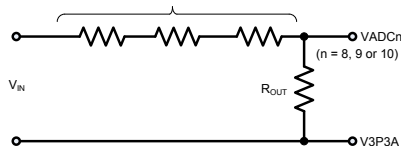
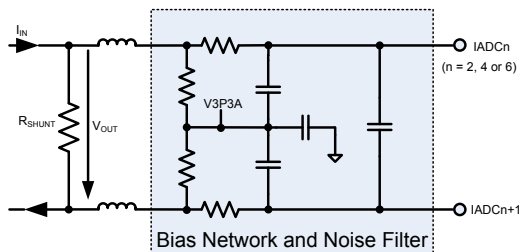
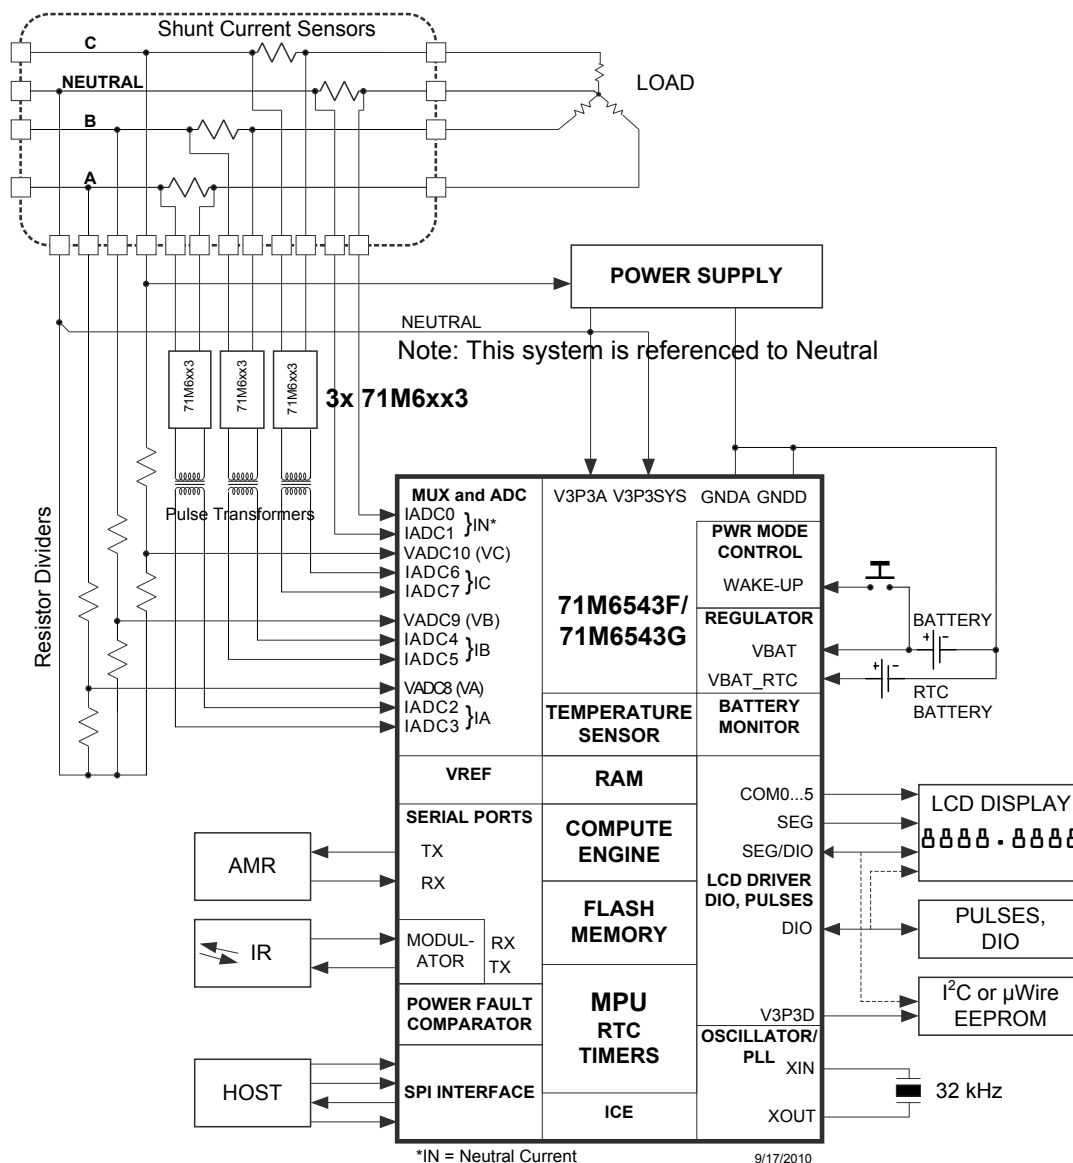
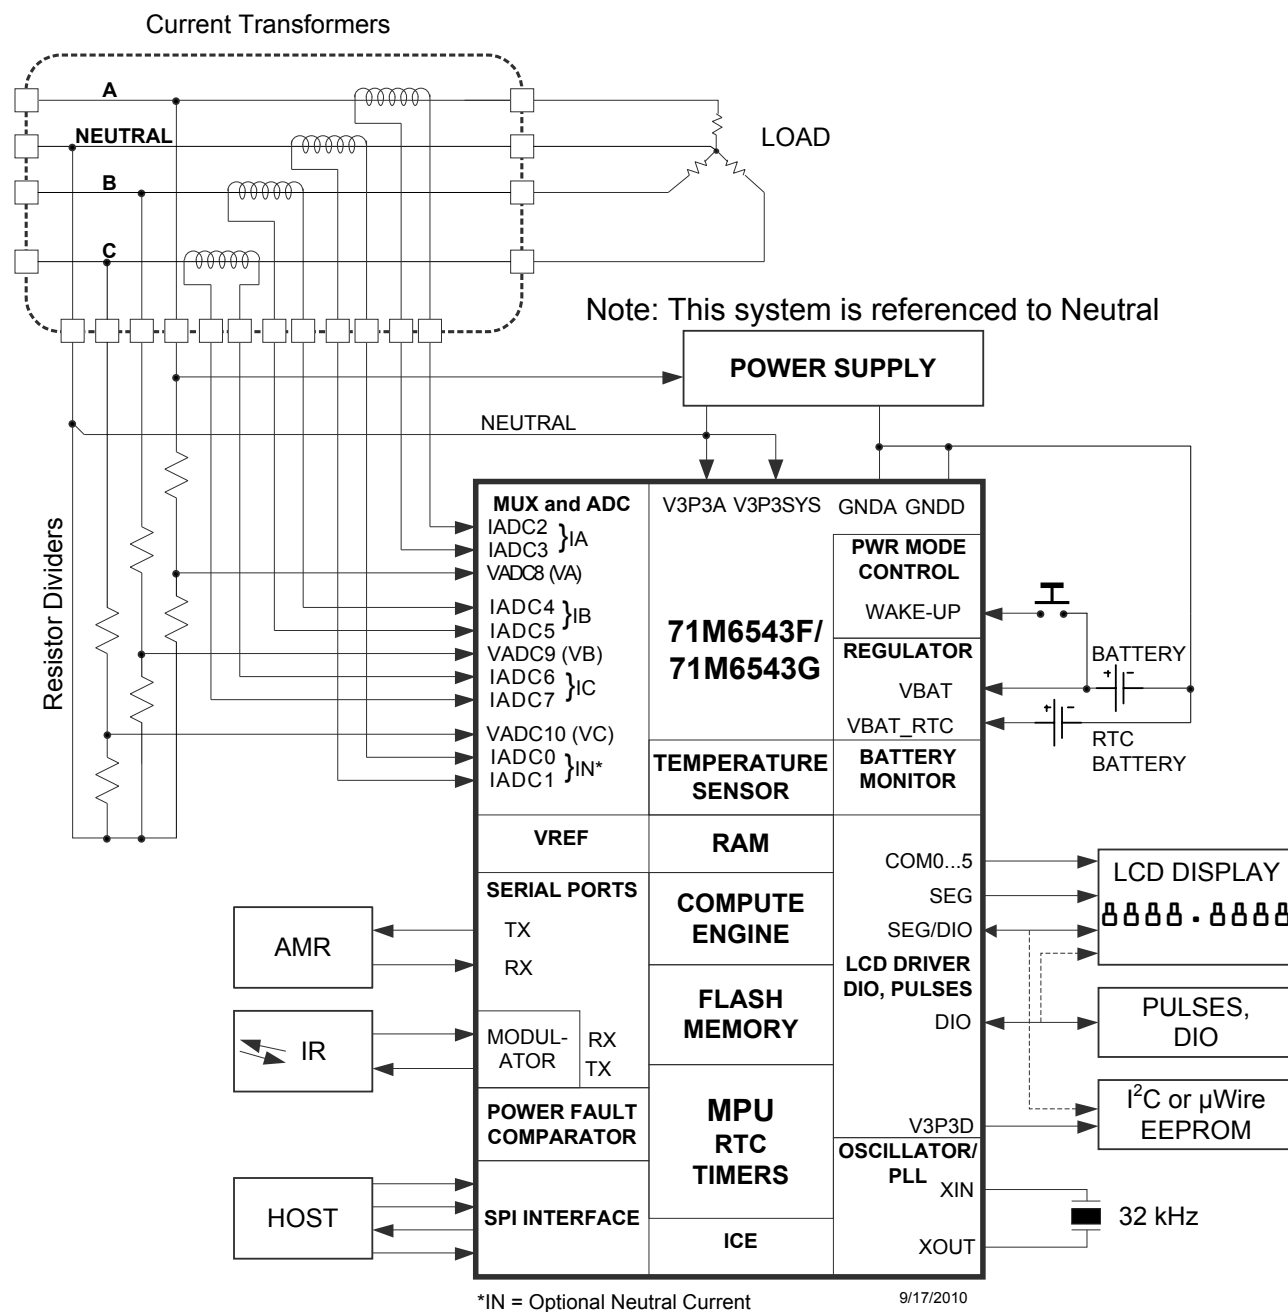

Figure 27: Resistive Voltage Divider (Voltage Sensing)
Figure 30: Differential Resistive Shunt Connections (Current Sensing)
Figure 31: System Using Three-Remotes and One-Local (Neutral) Sensor
Figure 32. System Using Current Transformers
Figure 27 through Figure 30 show voltage-sensing resistive dividers, current-sensing current transformers (CTs) and current-sensing resistive shunts and how they are connected to the voltage and current inputs of the 71M6543. All input signals to the 71M6543 sensor inputs are voltage signals providing a scaled representation of either a sensed voltage or current.
Figure 31 shows a typical connection for current shunt sensors; using the 71M6xx3 (polyphase) isolated sensors. Note that one shunt current sensor is connected without isolation, which is the neutral current sensor in this example (connected to pins IADC0-IADC1). Each 71M6xx3 device is electrically isolated by a low-cost pulse transformer. The 71M6543 current sensor inputs must be configured for remote sensor communications, as described in 2.2.8 71M6xx3 Isolated Sensor Interface (page 22). Flexible remapping using the I/O RAM registers $MUXn_SEL[3:0]$ allows the sequence of analog input pins to be different from the standard configuration (a corresponding CE code must be used). See Figure 2 for the AFE configuration corresponding to Figure 31.
Figure 32 shows a polyphase system using four current transformers to support optional Neutral current sensing for anti-tamper purposes. The Neutral current sensing CT can be omitted if Neutral current sensing is not required. The system is referenced to Neutral (i.e., the Neutral rail is tied to V3P3A and V3P3SYS).
This section discusses metrology temperature compensation for the meter designs where current shunt sensors are used in conjunction with the 71M6xx3 remote isolated sensors, as shown in Figure 31.
Referring to Figure 31, the VADC8 (VA), VADC9 (VB) and VADC10 (VC) voltage sensors are always directly connected to the 71M6543. Thus, the precision of the voltage sensors is primarily affected by VREF in the 71M6543. The temperature coefficient of the resistors used to implement the voltage dividers for the voltage sensors (see Figure 27) determine the behavior of the voltage division ratio with respect to temperature. It is recommended to use resistors with low temperature coefficients, while forming the entire voltage divider using resistors belonging to the same technology family, in order to minimize the temperature dependency of the voltage division ratio. The resistors must also have suitable voltage ratings.
Table 66 shows the five *GAIN_ADJx* equation output storage locations and the voltage or current sensor channels for which they compensate for the 1 Local / 3 Remote configuration shown in Figure 31.
Table 66: GAIN_ADJn Compensation Channels (Figure 2, Figure 31, Table 1)
This section discusses metrology temperature compensation for meter designs where Current Transformer (CT) sensors are used, as shown in Figure 32.
Referring to Figure 32, the VADC8 (VA), VADC9 (VB) and VADC10 (VC) voltage sensors are directly connected to the 71M6543. Thus, the precision of the voltage sensors is primarily affected by VREF in the 71M6543. The temperature coefficient of the resistors used to implement the voltage dividers for the voltage sensors (see Figure 27) determine the behavior of the voltage division ratio with respect to temperature. It is recommended to use resistors with low temperature coefficients, while forming the entire voltage divider using resistors belonging to the same technology family, in order to minimize the temperature dependency of the voltage division ratio. The resistors must also have suitable voltage ratings.
Table 67: GAIN_ADJx Compensation Channels (Figure 3, Figure 32, Table 2)